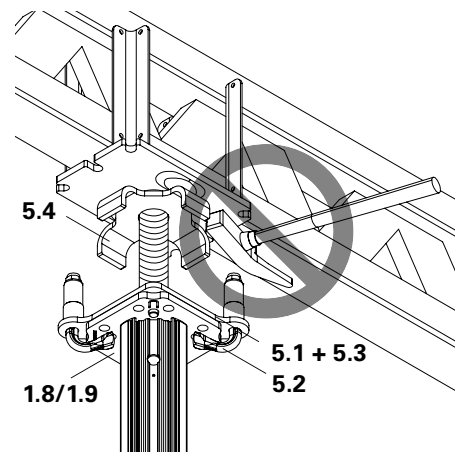

Fig. A2.16a
- Never loosen the rotary wings with force e.g. hammer blow. Risk of breakage! (Fig. A2.16a)